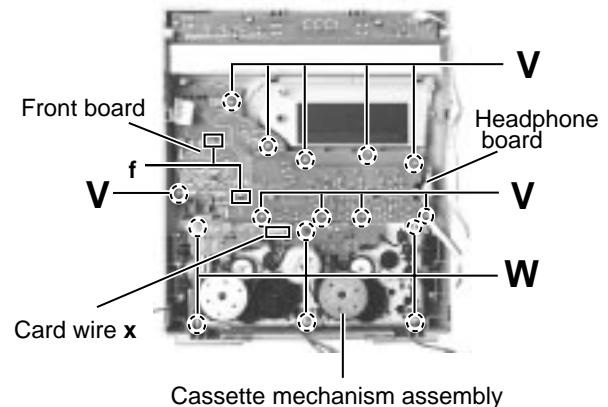

Fig.24
■ Removing the headphone board (See Fig.24)
■ Removing the front board (See Fig.24)
■ Removing the cassette mechanism assembly (See Fig.24)